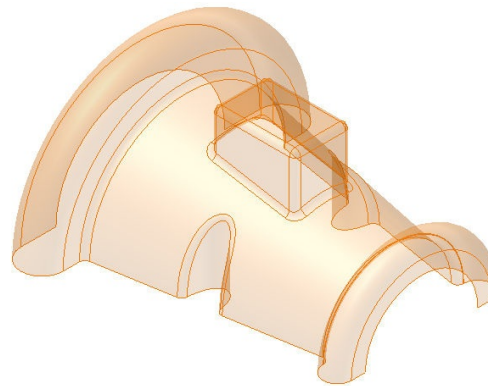

Figure 14-66 Model after filleting surfaces
2. Fillet all the sharp edges of the stitched surface with a radius of 2 mm. The surface after creating fillets is shown in Figure 14-66.